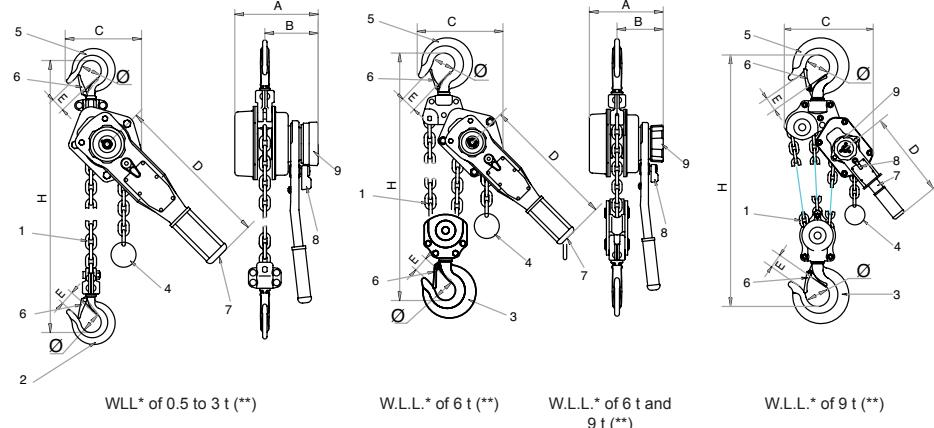

Fig. 1
The bravo™ hoist is supplied with a standard 1.50 m length of load chain (item 1, fig. 1). The load chain used with the 0.5 t to 3 t models is formed by a single strand with a lifting hook (item 2, fig. 1) at its end. The lifting chain (item. 1 fig. 1) of the 6 t model is made up of two strands and a sheaved lifting hook (item 3, fig. 1). The lifting chain (rep. 1 fig. 1) of the 9 t model, is made up of three strands and a sheaved lifting hook (item. 3, fig. 1).
The free end of the chain is equipped with a low limit stop (item 4, fig. 1).
1. Check that the bravo™ hoist is properly suspended by its suspension hook (item 5, fig. 1) and that the hook safety catch (item 6, fig. 1) is properly closed (see figs. 2 and 3).
The bravo™ hoist is operated by means of an actuating handle (item 7, fig. 1) which is moved back and forth by the operator to lift or lower a load, pull a load, or apply tensioning.
2. Set the movement selector lever (item 8, fig. 1) to the neutral position "0".